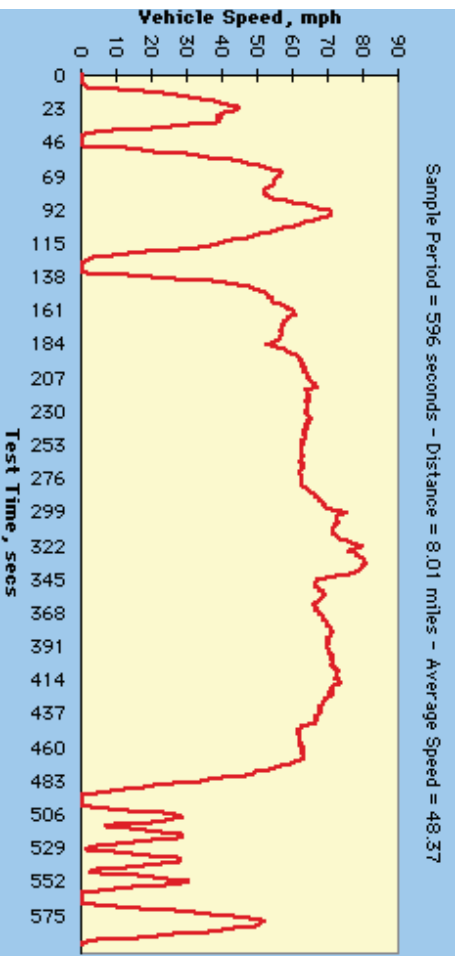

Figure 4. US06 Test Cycle Speed Trace
- **US06**: The US06 test cycle, also known as the Supplemental Federal Test Procedure (SFTP), addresses the shortcomings of FTP-72. It captures aggressive, high speed and/or high acceleration driving behavior, rapid speed fluctuations, and driving behavior following startup. Figure 4 shows the speed trace of a single US06 test cycle which is available in 40 CFR Part 86 Appendix I (g).